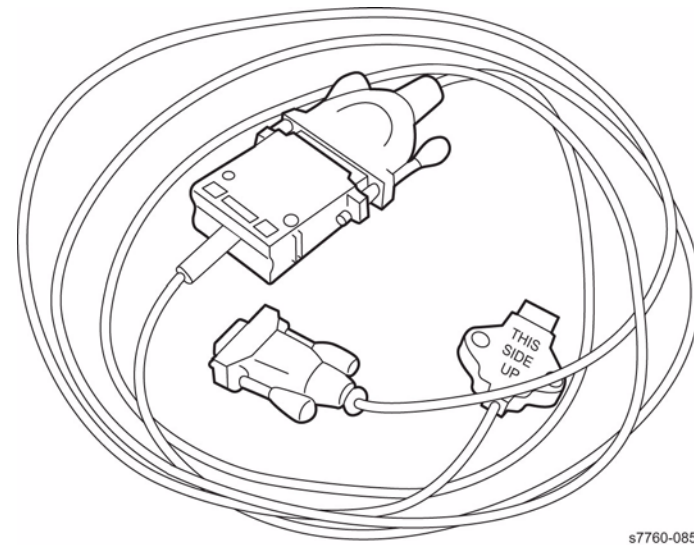

Figure 3 Modem Serial Cable
5. Connect the null Modem Serial Cable to the PC or Laptop (Figure 3).